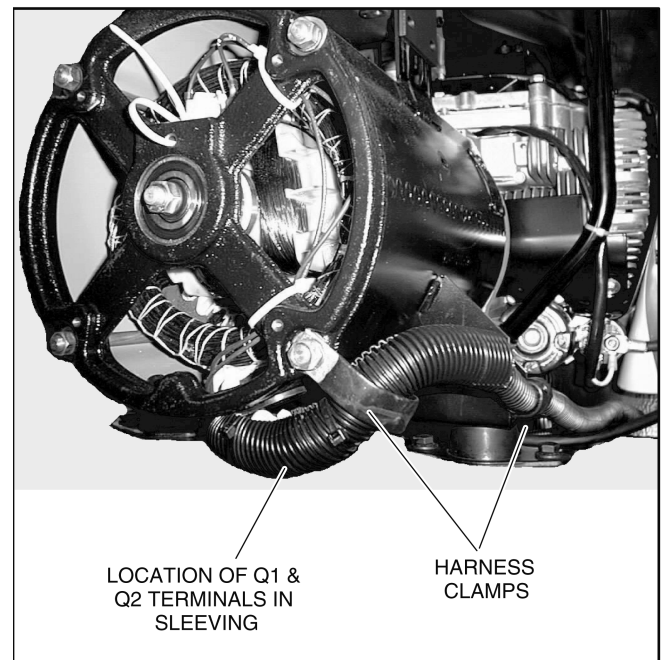

FIGURE 7-4 ALTERNATOR HARNESS
The following sections describe the disassembly and reassembly procedures for the generator. Figure 7-4 illustrates generator assembly.
2. Remove the two harness clamps that secure the harness to the outside of the generator (Figure 7-4).
4. Disconnect leads Q1 and Q2. Connectors are located in the harness sleeving at the rear of the generator (Figure 7-4).